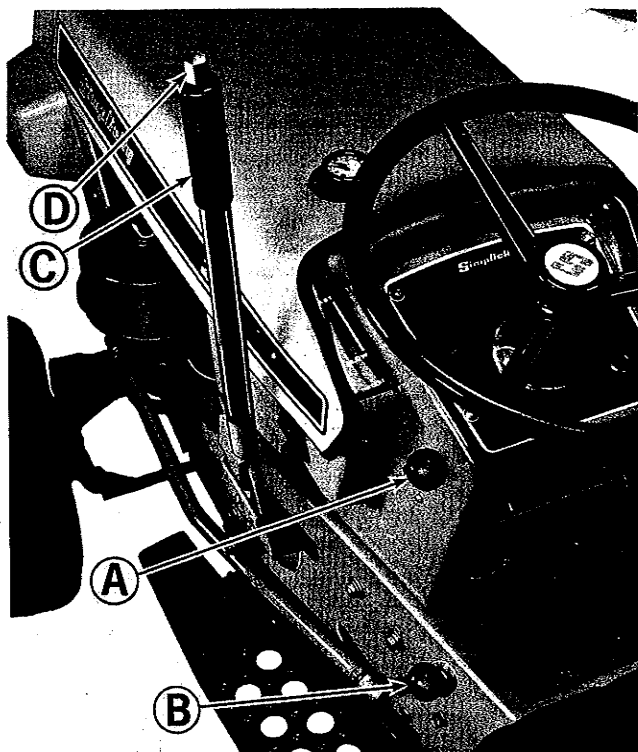

Figure 3. Controls on left side of tractor.
**SPEED CONTROL LEVER:** (Figure 3, item A) The engine speed control lever is used to set the desired engine speed. The speed control lever should be moved forward away from the operator to increase engine speed or back toward the operator to reduce engine speed. Consult the appropriate section of this manual for specific information on suggested settings of the engine speed control lever. For example: starting the engine, page 5. Controlling tractor ground speed page 8, and the Operation Chart on page 8.
**POWER TAKE OFF CONTROL LEVER:** (Figure 3, item B) This power take off lever controls power to center or rear mounted attachments such as a mower or rotary tiller which are driven by the power take off. Pull the lever up and move it forward until it snaps over center to engage the power take off. Pull it back and down to disengage. The tractor engine should be running at 1/2 to full engine speed when the power take off is engaged to absorb the added load. **CAUTION: ALWAYS DISENGAGE THE POWER TAKE OFF, AND WAIT UNTIL ALL ATTACHMENTS HAVE STOPPED MOVING BEFORE LEAVING THE TRACTOR SEAT. THE POWER TAKE OFF CONTROL LEVER MUST BE DISENGAGED BEFORE THE ENGINE WILL START.**
**MANUAL LIFT LEVER:** (Figure 3, item C) The lift lever is used for lifting mounted attachments, such as the rotary mower, or the tiller out of the operating position so they can be transported. You can also regulate the operating height of attachments, such as the grader blade, and snow